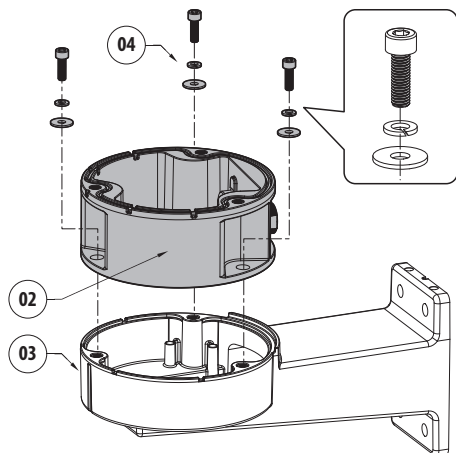

Fig. 2
For installation combined with the UEBW support, fasten the support with quick connectors (02) to the wall support (03) using the screws and the washer (04) supplied, paying attention to alignment of the two supports (Fig. 2, page 3).